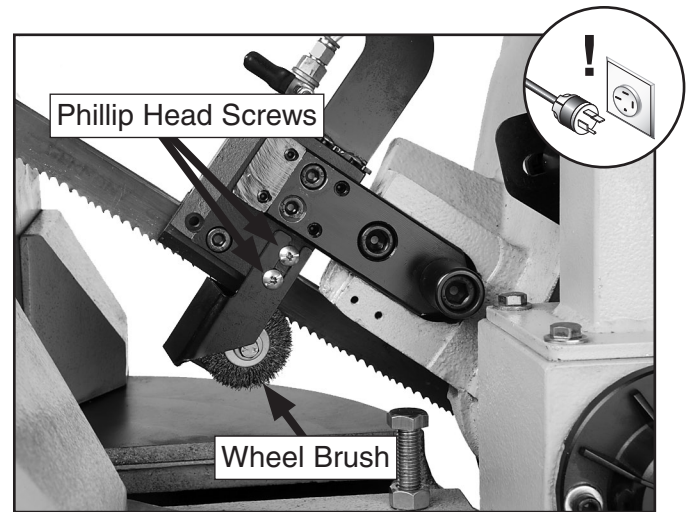

Figure 55. Wheel brush.
3. Support the wheel brush so it doesn't fall, then loosen the two Phillip head screws that secure the wheel brush (**Figure 55**).